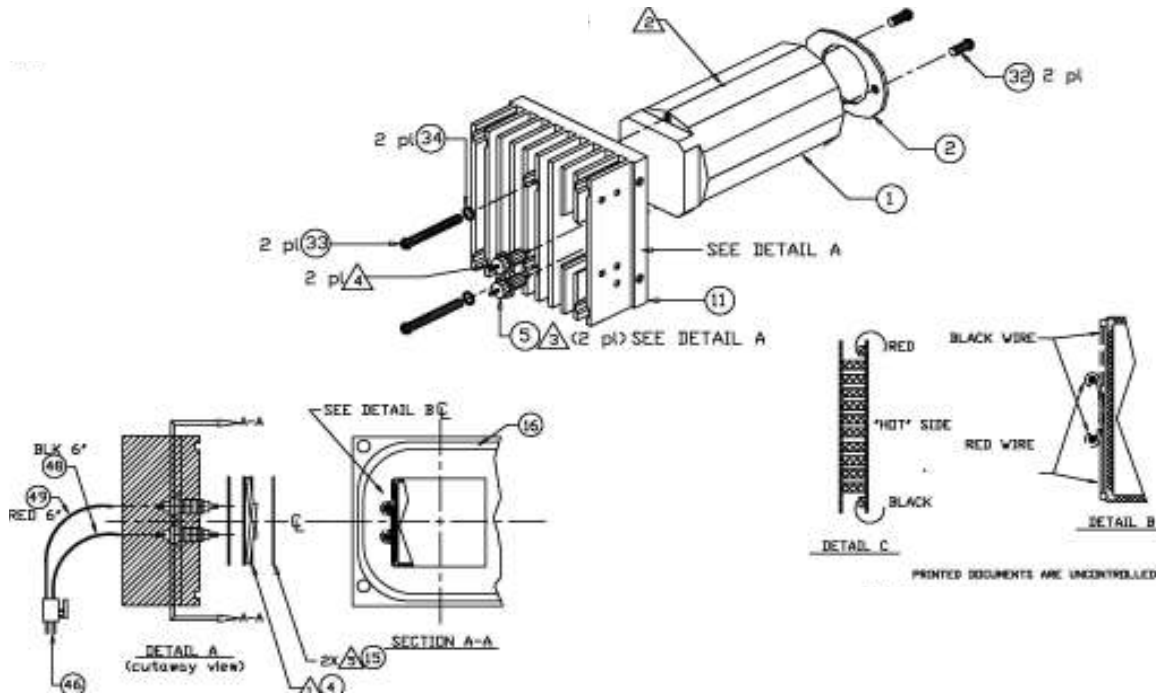

Figure 2
23. Solder the new TEC onto the two terminals on the heat sink assembly, paying close attention to the direction of the TEC. The HOT side of the TEC goes toward the heat sink assembly. Refer to Figure 2, Detail C for HOT side.